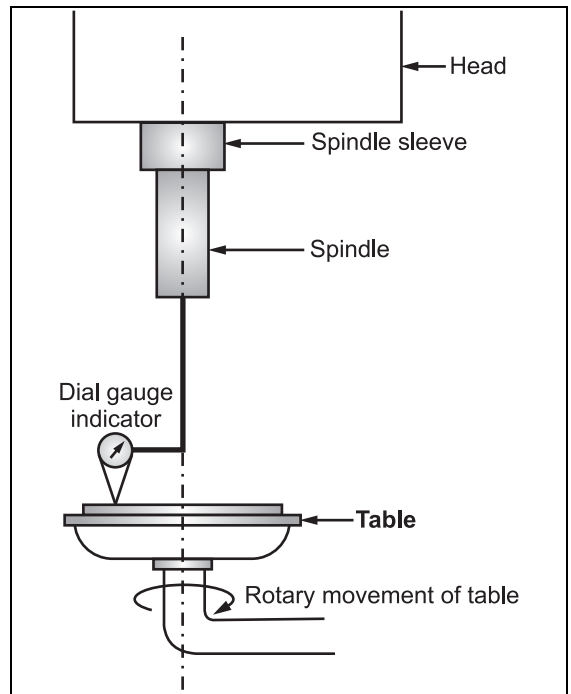

Fig. 8.33: Squareness of clamping surface
- Mount dial gauge indicator, in such a way that, its plunger is appropriately pressed against the table surface. [Refer Fig. 8.33].